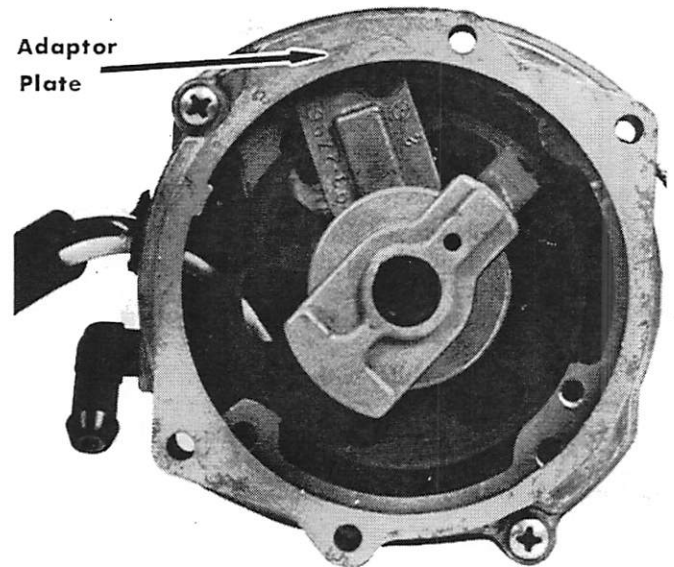

Figure 2. Removing Adaptor Plate from Trigger Housing
2. Remove 2 nuts, washers and screws from adaptor plate, separate adaptor plate from trigger housing assembly and remove gasket. (Figure 2)